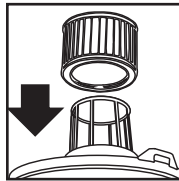

FIGURE 20
33. With the tank cover in an upside down position, slide the cartridge filter down over the lid cage, pushing until the filter seals against the cover. **FIGURE 20.**